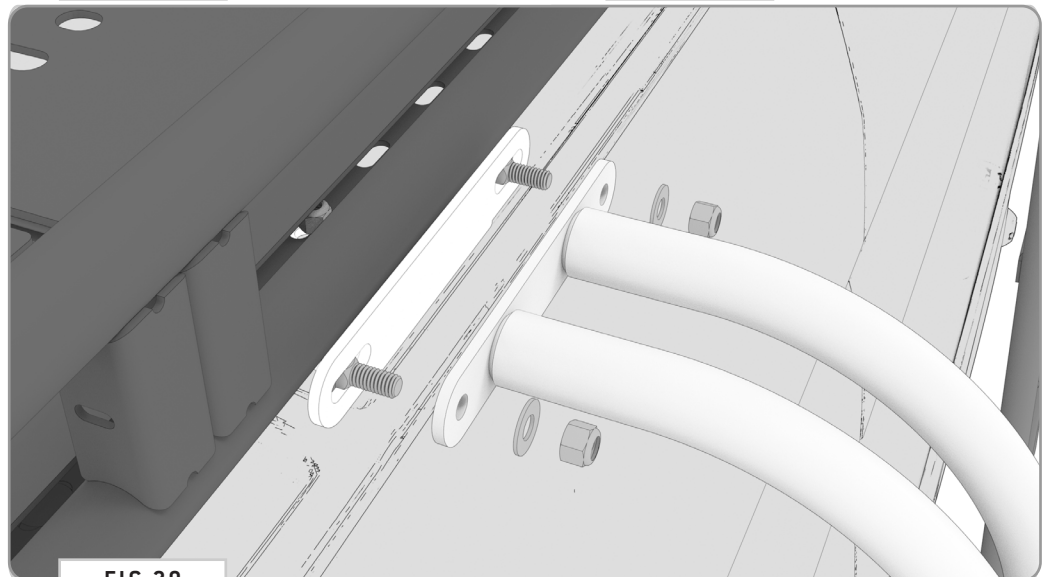

FIG 20
4.2b Attach Surf Pole to Safari Bracket: Loosely attach the Surf Pole to the Safari Bracket using **3/8-16" Carriage Bolts, Flat Washers and Nylon Locknuts (FIG 20).**
5.3 Reattach to Hangar Bracket: Loosely reattach your **Surf Pole** to the installed **Mounting Bracket** as shown (**FIG 20**) using the provided **3/8-16" Carriage Bolts, Flat Washers and Nylon Locknuts**.